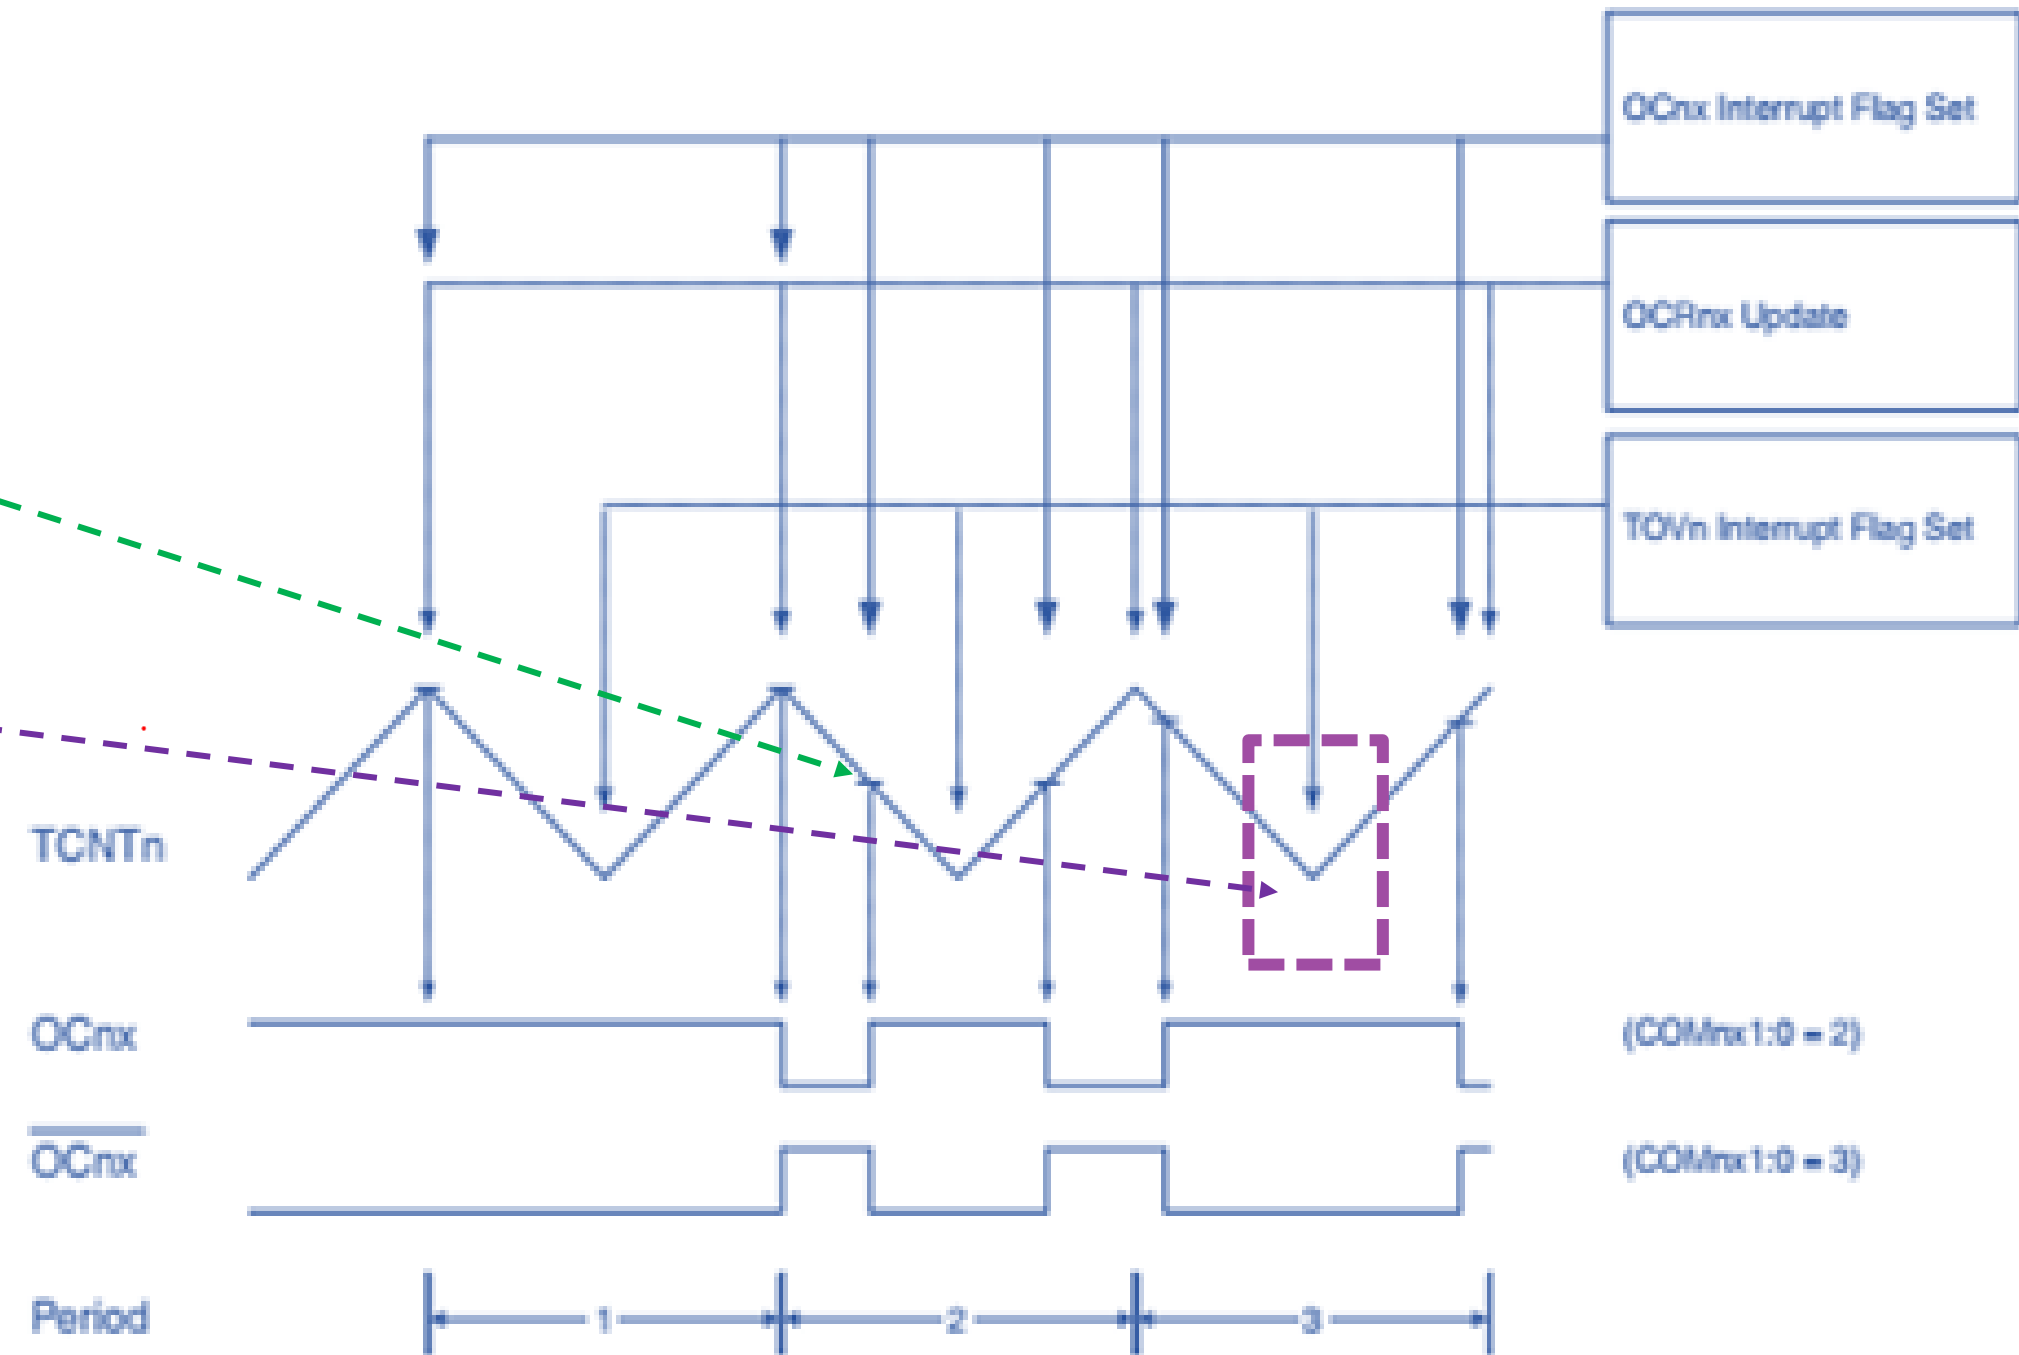

Figure 12.7 Timing Diagram of the Phase Correct PWM Mode
- ❑ The TCNT0 value will be equal to TOP for one timer clock cycle. The timing diagram for the phase correct PWM mode is shown on **Figure 12.7**.